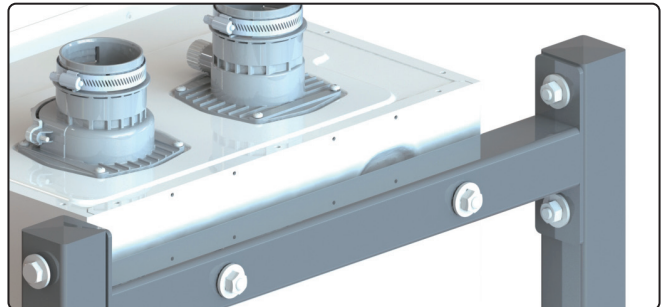

Figure 7 - Single Appliance Mounted on Top Mounting Bracket
1. a. If mounting one(1) appliance to the rack, use a 10mm Ratchet or Socket Driver and wrench and two(2) M6 bolts and included washers and nuts to mount the top mounting bracket to the upper beam of the rack. See Figure 7.
2. Hang the appliance(s) from the top mounting bracket(s). See Figure 7.